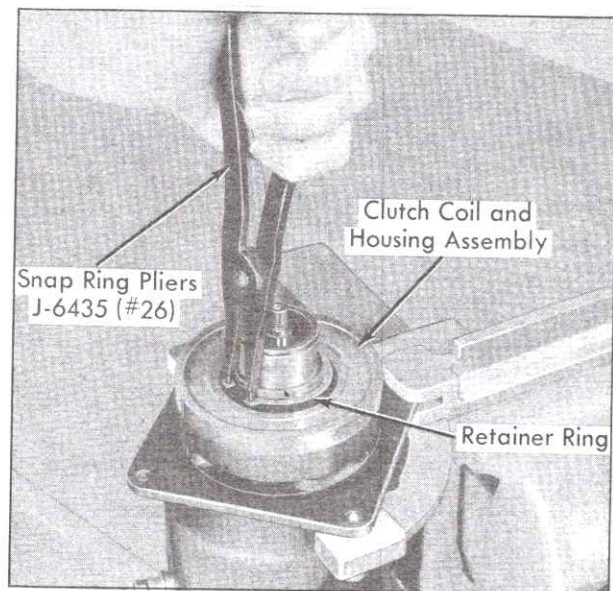

Fig. 1-40 Removing Coil Housing Retainer Ring
4. Remove coil housing retainer ring using Snap Ring Pliers, J-6435 (#26), Fig. 1-40.